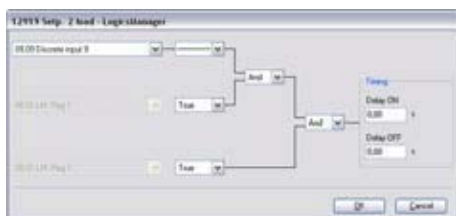

Fig. 150: LogicsManager function "Setp. 2 load"
3. ➤ Configure the LogicsManager function "Setp. 2 load" as shown in (Fig. 150) to enable load setpoint 2 if discrete input [DI 09] is energized.